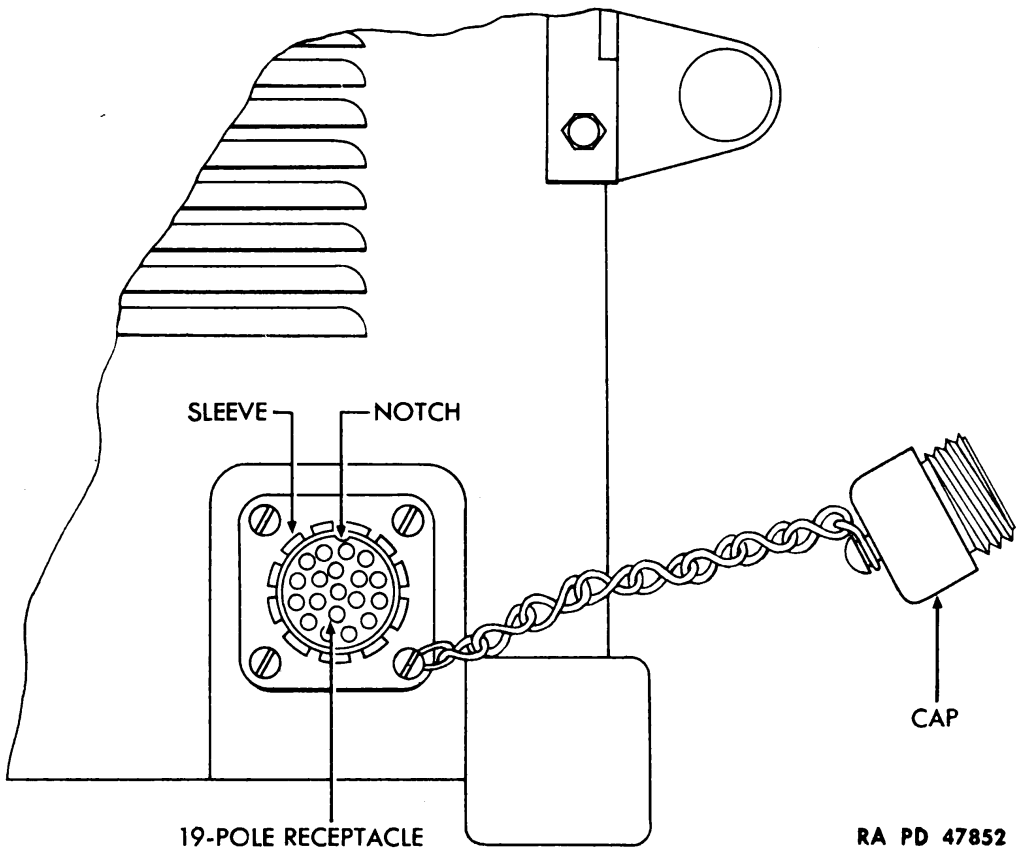

Figure 38 — 19-pole Outlet Receptacle — Generating Unit M6
a. General. All Generating Units M5 have 3-pole outlet power receptacles. All Generating Units M6 have 19-pole receptacles. M6 Units with serial numbers from 267 to 366, and 377 to 726 inclusive, also have 3-pole receptacles mounted on the rear of the unit. The 3-pole receptacles are used for 3-phase current, while the 19-pole receptacles (fig. 38) are used for single-phase current.